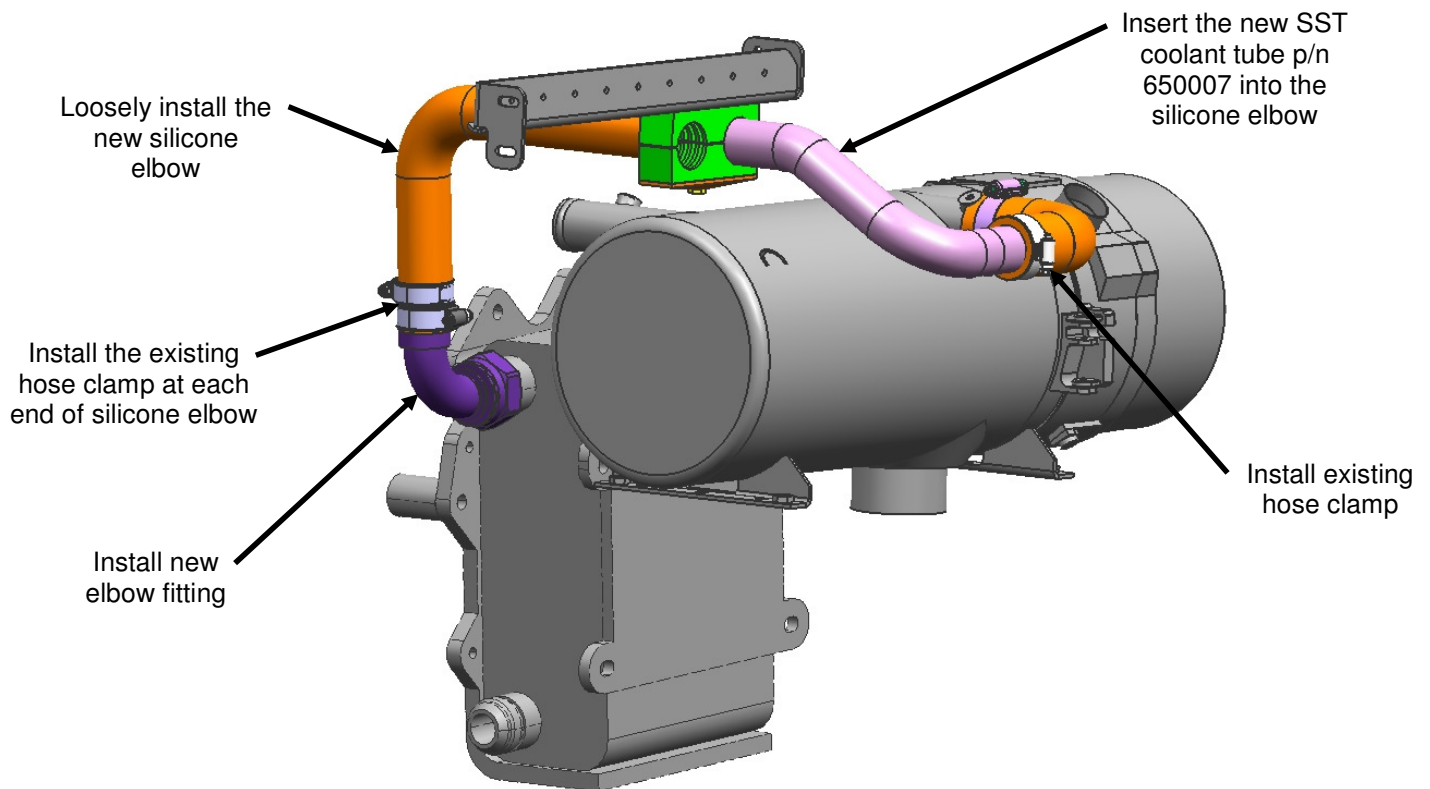

Figure 7: Cabin Heat Coolant Discharge Tube Installation
21. Install new elbow fitting p/n 648252 loosely to the heat exchanger cabin loop discharge fitting. See Figure 7.
22. Insert the new SST coolant discharge tube p/n 650007 thru the tube clamp rearward hole from Step 15 or 16 and into the silicone elbow at the booster pump. Loosely install the hose clamp removed in Step 12, see Figure 7.
23. Loosely install the new silicone elbow p/n 617307 (trim elbow to fit) between existing heat exchanger cabin heat SST elbow from Step 21 and newly installed SST tube from Step 22 using existing hose clamps removed in Step 13, two (2) at each end of the elbow.